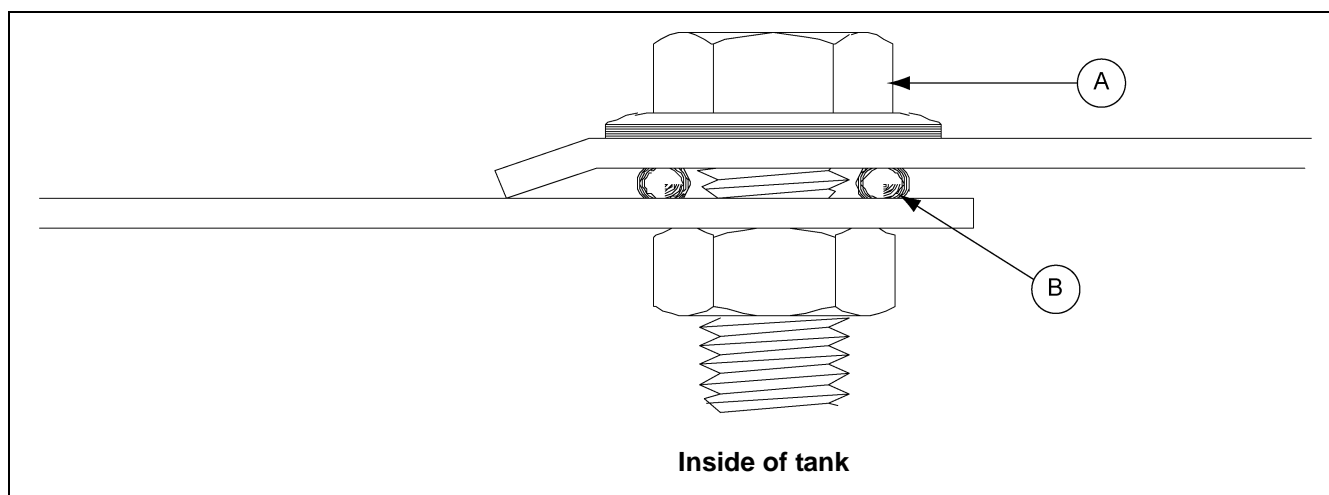

Figure 7C *Roof Sheet Overlap Detail*
NOTE: *The roof and sidewall ladders are centered between seams. When placing the roof panel, the outside edge is bent down. This edge is to be placed on the outside of other roof panel to form a tight seal. (See Figure 7C on Page 26.)* Be sure to apply two (2) strips of caulking on all seams. Assemble roof panels in a counterclockwise manner.